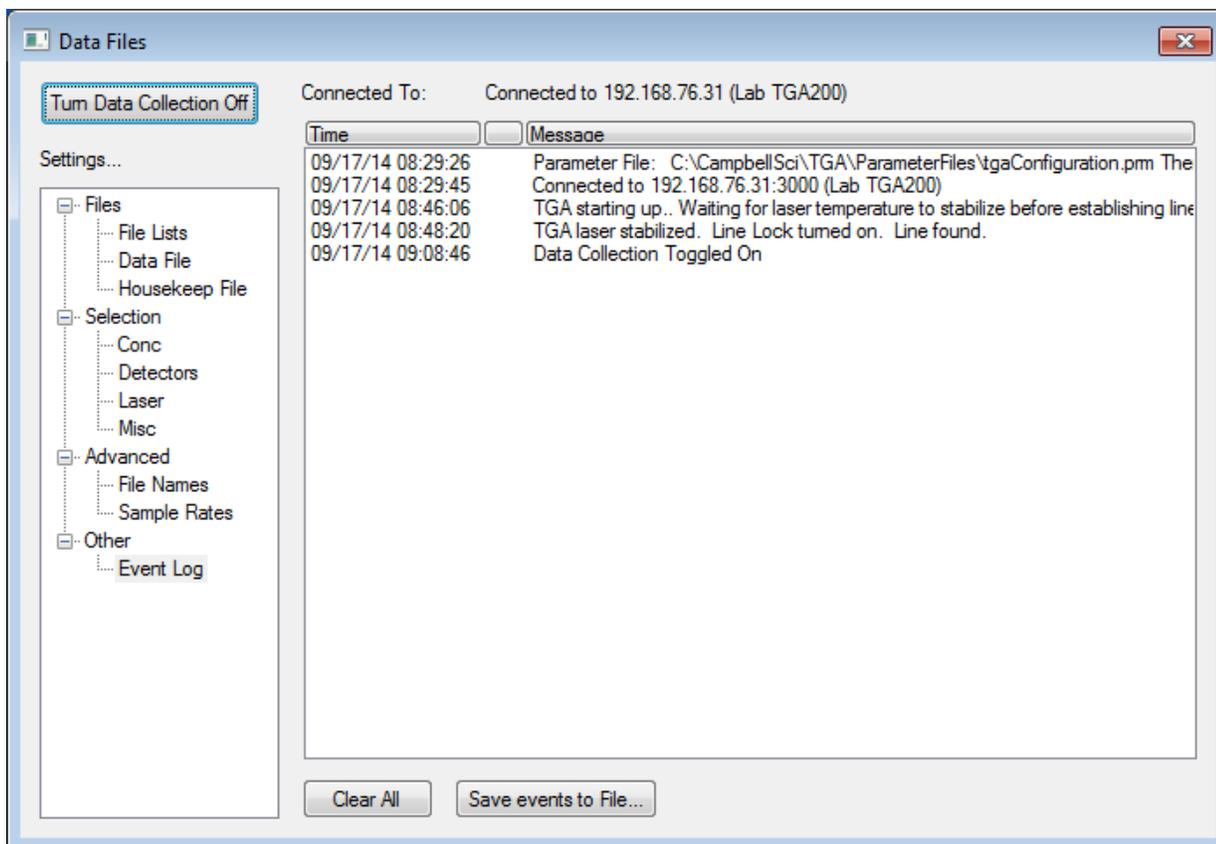

FIGURE 7-45. Example of log file messages
**Event Log** – View or save a log of the status of the communication with the TGA. An example of the messages in the log file is shown in FIGURE 7-45.